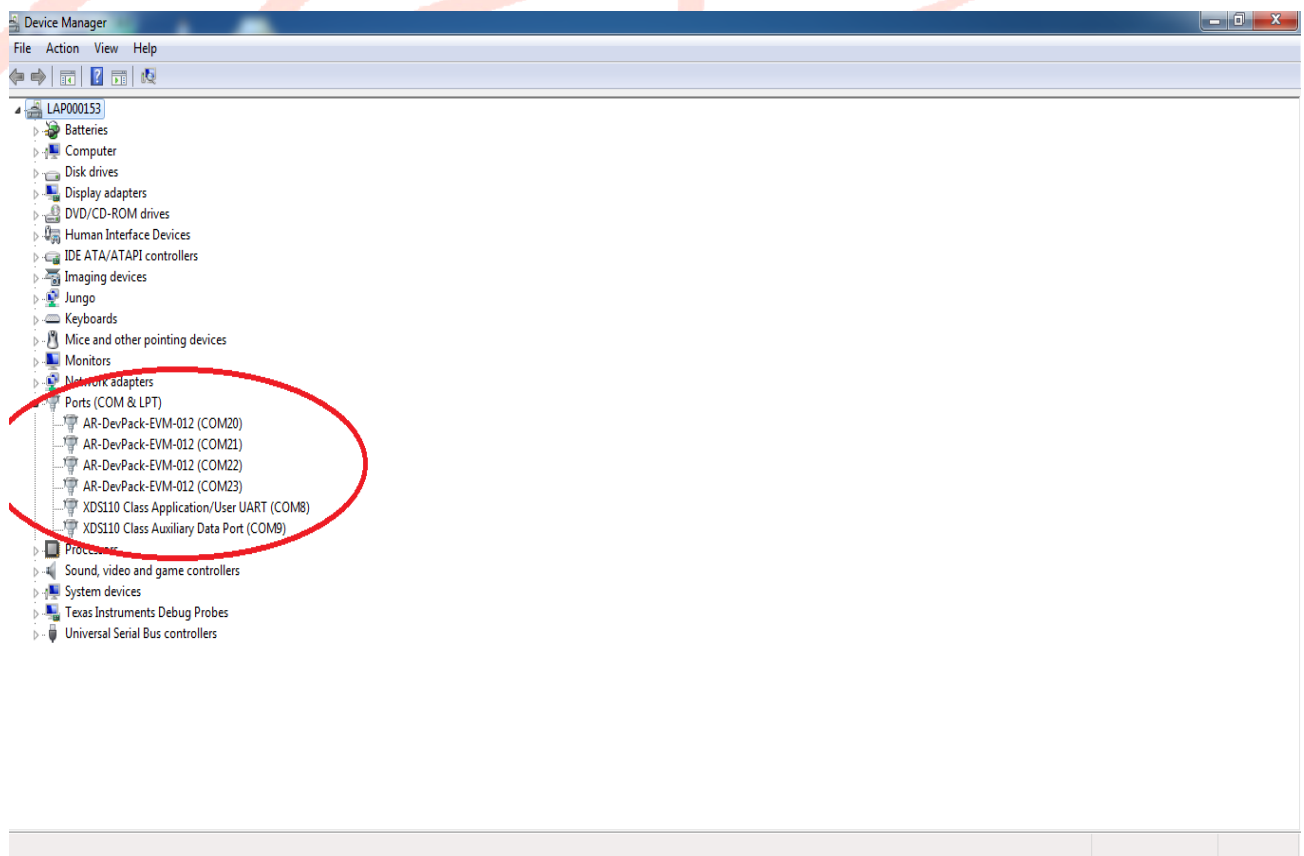

Figure 17: COM ports
- Check the ports to be shown in "Device Manager" as per below Figure 17,